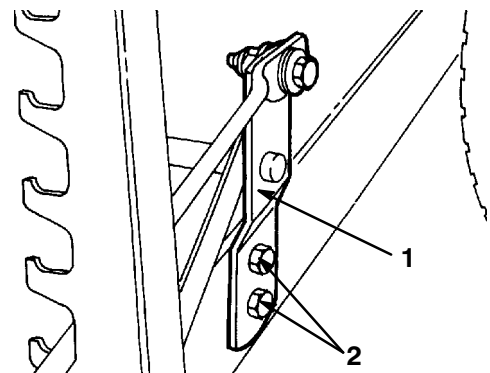

Figure 41
5. If the blade tip height is not within 1/8 inch (3 mm), level the cutting unit by loosening the height-of-cut support bracket capscrews and raising or lowering the bracket (Fig. 41).